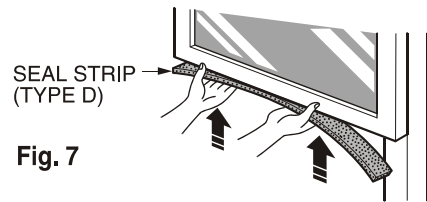

**Fig. 6**
1. Insert the guide panels into the guides of the air conditioner. Fasten the curtains to the unit with screws (TYPE A) as shown Fig. 6.